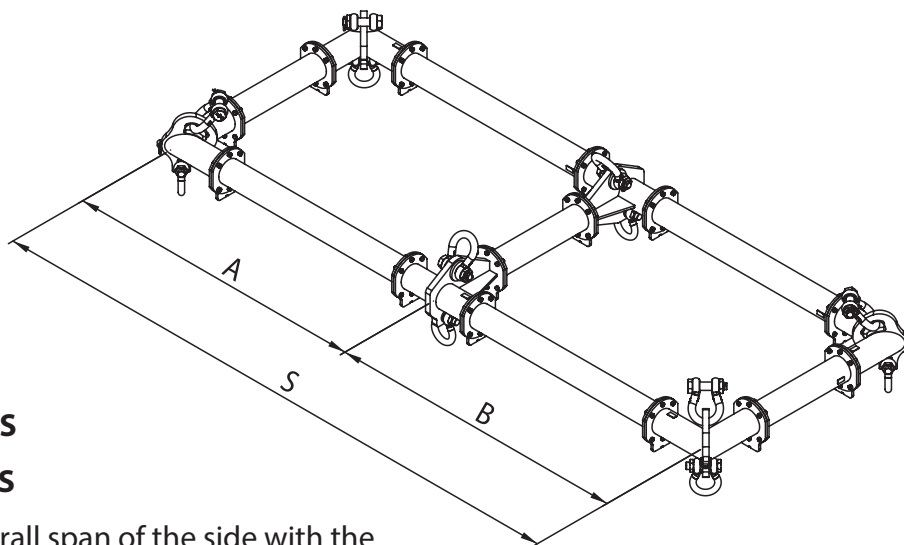

Fig. 2
- Ensure that **Fig.2** is checked and followed.